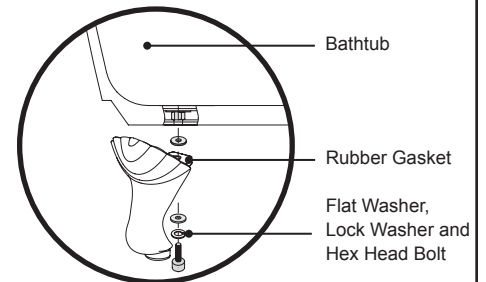

Figure 8. Ball and Claw Feet Installation
- 1 Turn the bath upside down on a protective covering and attach the four (4) feet the four feet (Figure 8).
- 2 Using a flat washer, lock washer and hex head bolt, attach the metal frame to the bath tub. Repeat this step for the remaining three (3) feet.
- 3 Once all four (4) feet have been installed, use an Allen wrench (supplied) and tighten all mounting hardware.